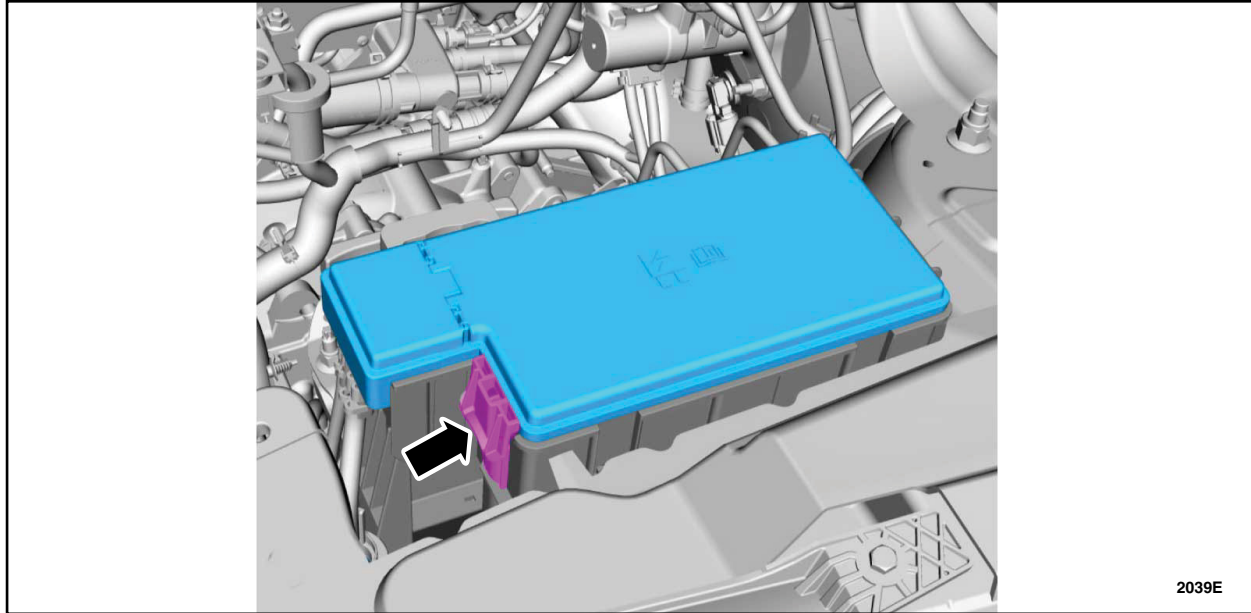

FIGURE 3
2. Remove the Battery Junction Box (BJB) cover. See Figure 3.
16. Install the BJB cover. See Figure 3.